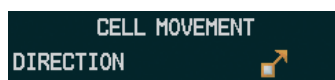

Figure 6-21 Cell Movement Legend
- 1) Press the **MAP** Softkey (for the PFD Inset Map, select the **INSET** Softkey). This step is not necessary on the Weather Data Link (XM) Page.
- 2) Press the **NEXRAD** Softkey (**CEL MOV** Softkey on the Weather Data Link (XM) Page). For Cell Movement to be displayed on maps other than the Weather Data Link (XM) Page, Cell Movement must be turned on in the Navigation Map Setup Menu (see "Setting Up SiriusXM Weather").
To display the Cell Movement legend on the Weather Data Link (XM) Page, (Figure 6-21), press the **LEGEND** Softkey when Cell Movement is selected for display.